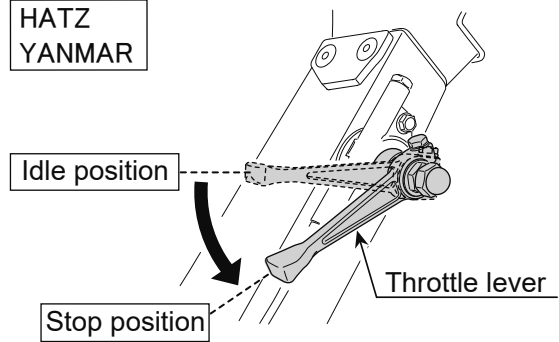

Fig.26
- 2 Move the throttle lever to the stop position to stop the engine. (Fig.26)